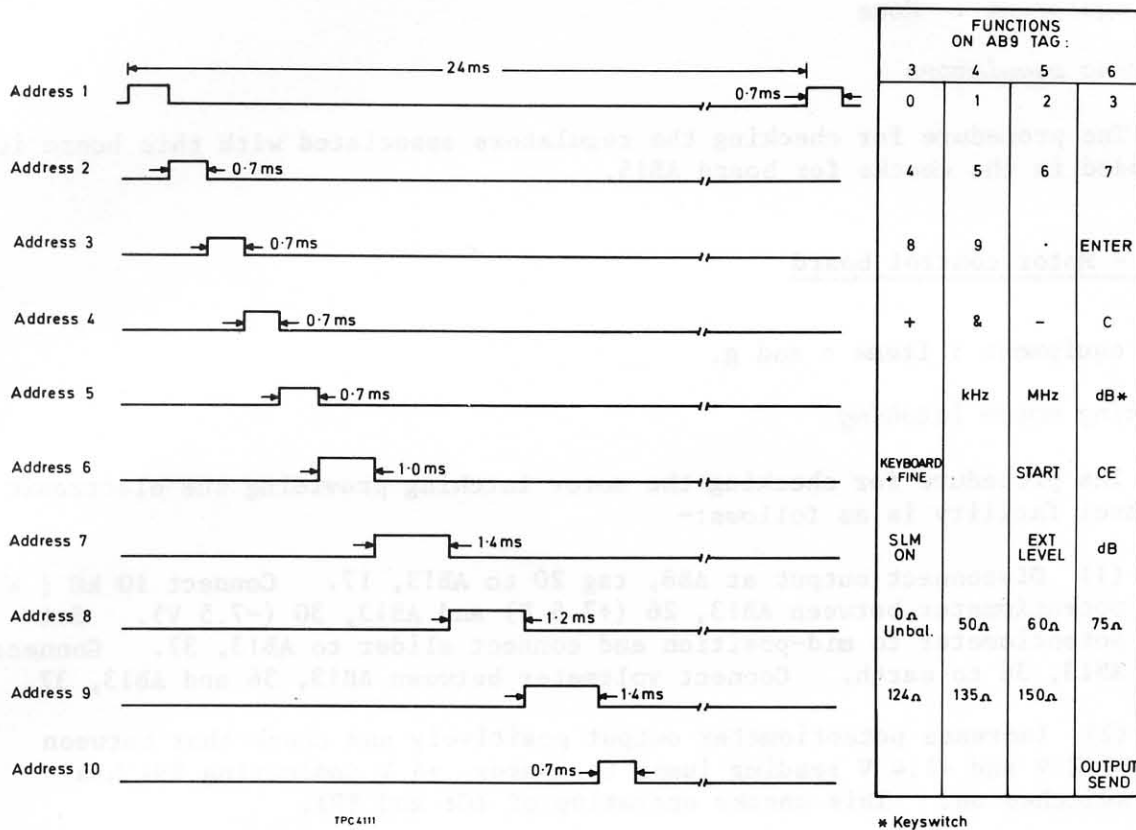

Fig. 7 Keyboard and switch operation summary - AB9
- (1) Select 0 Ω balanced output impedance, KEYBOARD and SLM CONTROL OFF.
- (2) Trigger oscilloscope from address 1 (anode side of AB9, D25) and display pulse on lower trace.
- (3) Connect second channel to AB9, tag 3. Select in turn 0, 4, 8, +, KEYBOARD + FINE, SLM ON, 0 Ω unbalanced and 124 Ω output impedance and check at each selection that pulses appear in positions shown in Fig. 7 (note that pulse widths appear to vary irregularly; this is normal).
- (4) Transfer oscilloscope input to AB9, tag 4. Select in turn functions shown in second column of Fig. 7 and check positions of pulses.
- (5) Continue above procedure for remainder of functions shown in Fig. 7. Disconnect oscilloscope.